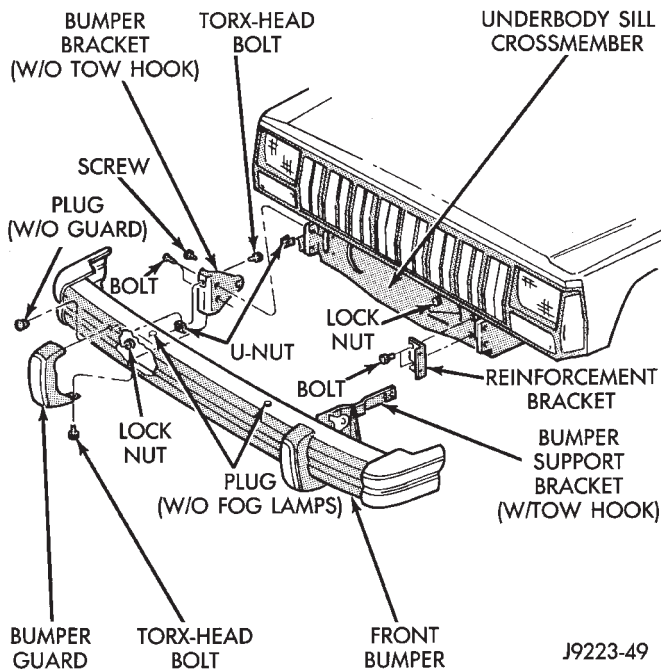

Fig. 5 Front Bumper Removal/Installation
(5) Detach the tow hook straps from the sillmember.
(6) Support the bumper.
(7) Remove the bolts that attach the bumper support brackets to the right and left sillmembers (Fig. 5).
(8) Remove the support and the bumper from the vehicle. 5).